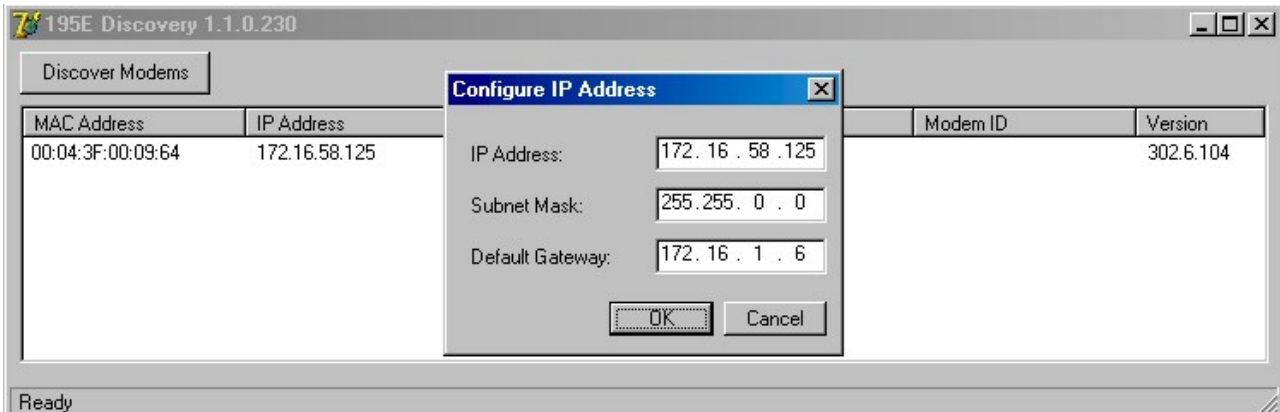

Figure 8: Change IP Address Window
5. Double-click on the 195Ep you want to program and the *Configure IP Address* window will be displayed (Figure 8). Enter an IP address and Subnet Mask for the 195Ep that matches your network subnet and press the **OK** button to save this to the ESTeem. You will receive notification that the Configuration was Successful and the 195Ep will reboot. Proceed to ESTeem Setup in Chapter 4.